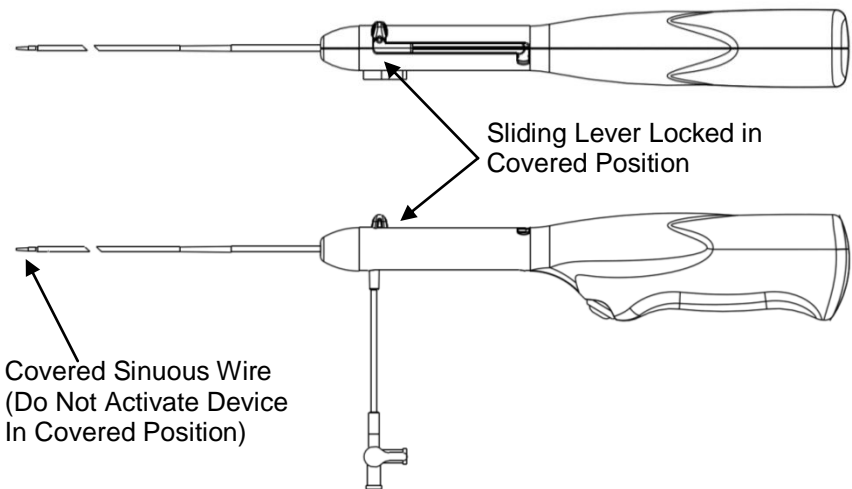

Figure 3
9. Place the device in the covered position by pushing the sliding lever to the distal position and rotating the sliding lever to lock in the covered position (refer to Figure 3). When in the covered position, only the flexible tip of the sinuous wire should extend from the catheter. The device should not be activated in the covered position.